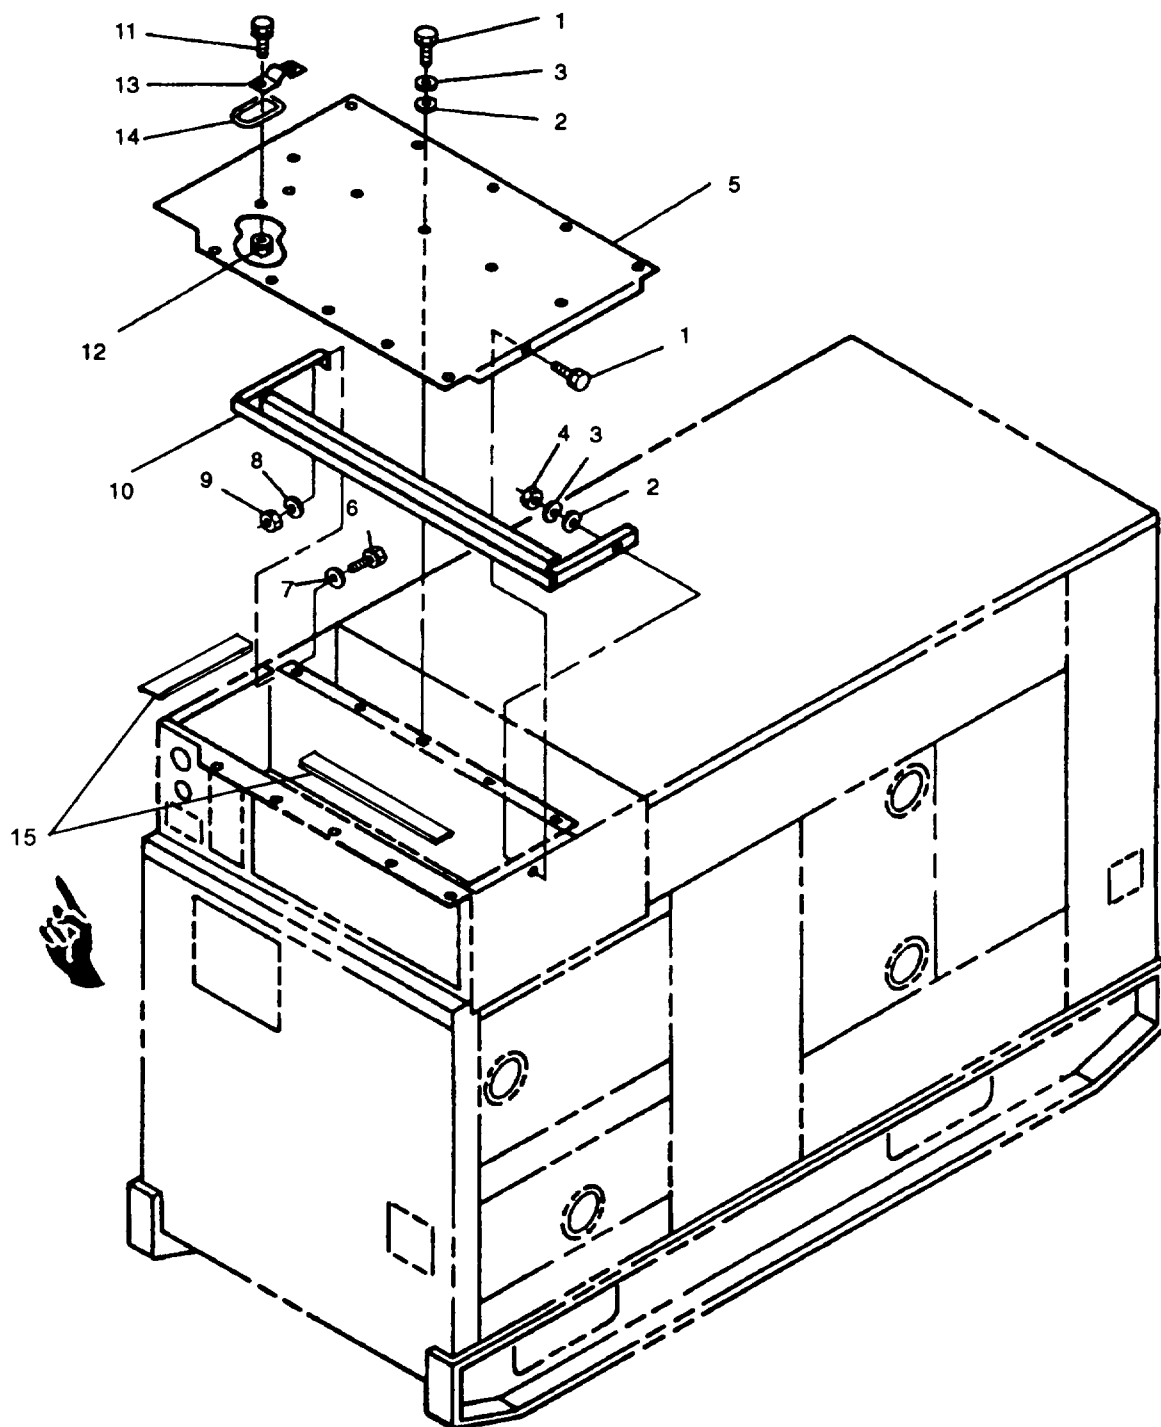

FIGURE 2-6. Control Box Top Panel
- d. Lower control panel and remove bolts (1, FIGURE 2-6), flat-washers (2), lockwashers (3), and assembled nuts (4) from top panel (5).
- c. Inspect control box top panel (5, FIGURE 2-6) for dents, cracks, loose paint, and corrosion.
- a. Install ring (14, FIGURE 2-6) and bracket (13) on control box top panel (5) with bolts (11) and assembled nuts (12).
- b Install stiffener (10) in control box assembly with bolts (6), washers (7), lockwashers (8), and nuts (9).